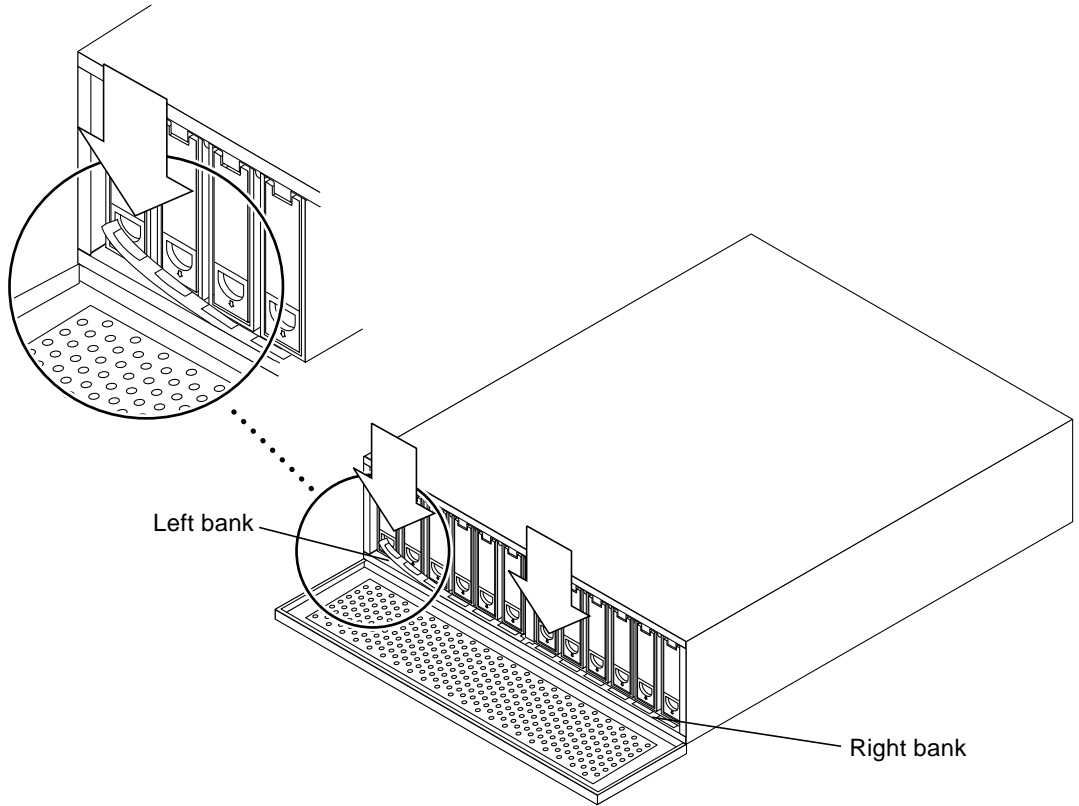

FIGURE A-4 Applying the Drive Bay Labels
- **Carefully paste the new labels over the old ones, matching the center notches (FIGURE A-4).**